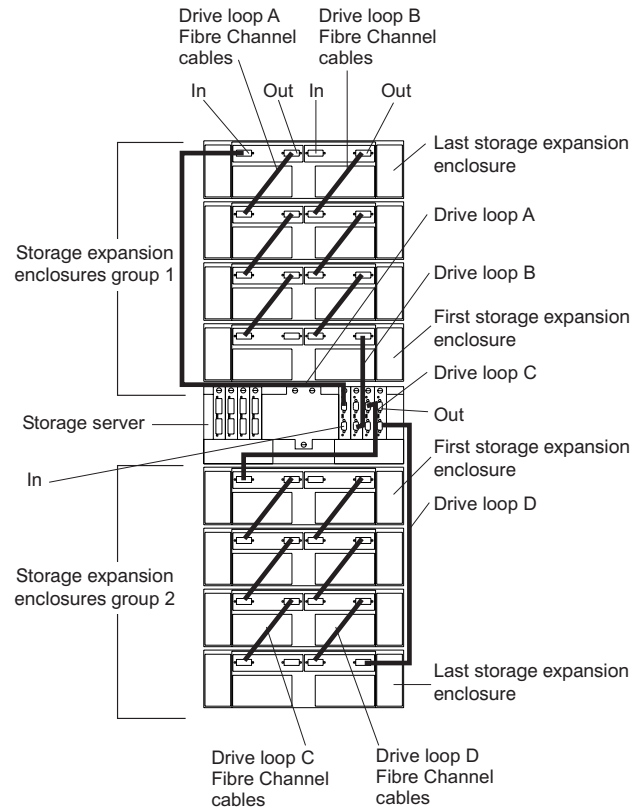

Figure 36. Connecting two redundant storage expansion enclosure groups
3. Connect drive loop C to the DS4400 Storage Server, as shown in Figure 36 on page 37. Starting with the first storage expansion enclosure in storage expansion enclosure group 2, connect the In port on the left ESM board to the Out (upper) port on drive mini hub 2.
4. Connect drive loop D to the DS4400 Storage Server, as shown in Figure 36.